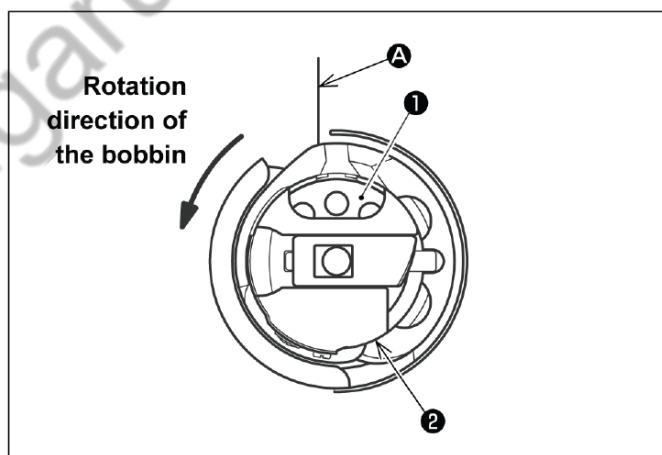

Fig.13
Inert the bobbin thread with thread (1) into the bobbin case (2) to allow bobbin to turn in the direction of the arrow when drawing bobbin thread. See fig.13.